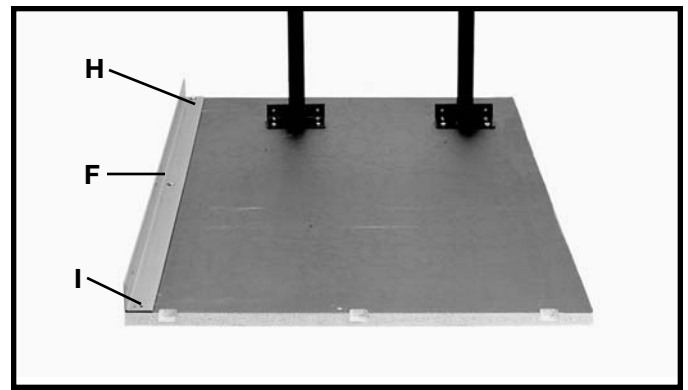
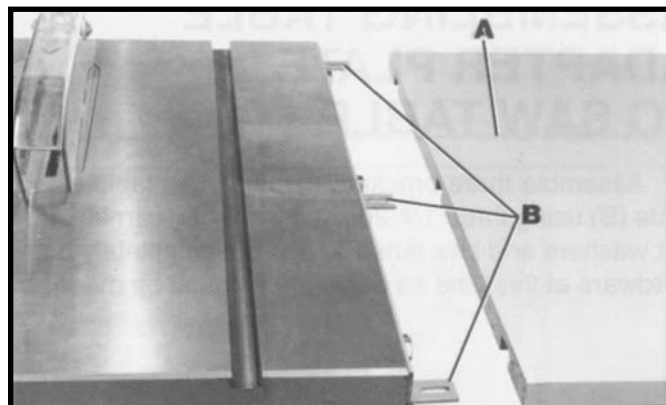
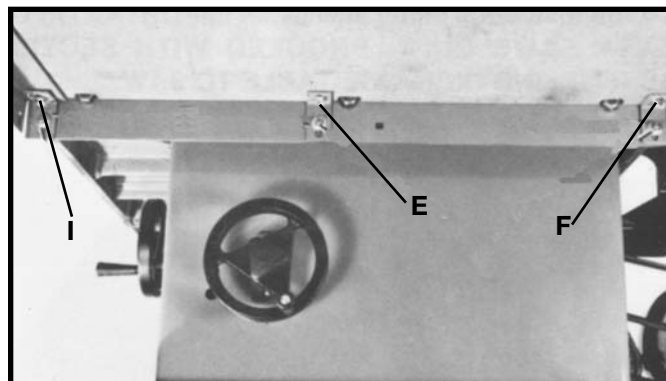
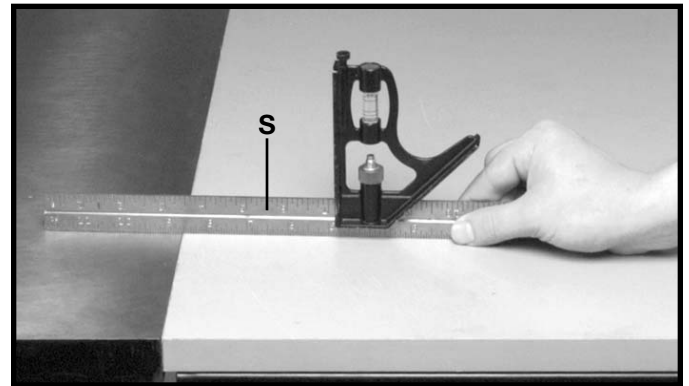

Fig. 9
Fig. 13
Fig. 14
Fig. 17
5. Fasten the front table support (F) Fig. 9, to the bottom of the table as shown using two #8x7/8" long wood screws (H) and (I) supplied.
**NOTE:** The vertical flange, on the table board support (F), should be flush with the front edge of the table board.
**NOTE:** The slots closer to the angles in the support (F) should be against the table.
**NOTE:** Screws (H) and (I) Fig. 9 should not be completely tightened to the table board at this time. Screw (I) will have to be removed later.
10. Assemble the table (A) to the three brackets (B) Fig. 13, using three #8x7/8" screws (I), (E), and (F), Fig. 14. **NOTE:** Screw (I) Fig. 9, must be removed in order to attach the left side table bracket to the table. **NOTE:** The two screws (E) and (F), Fig. 14, can be tightened and screw (I) Fig. 14, should be left slightly loose at this time.
13. Using a straight edge (S) Fig. 17, make certain the Unifence table surface is level with the saw table by adjusting two leveling screws located on the bottom of table legs and adjusting angle brackets (B) Fig. 13, use a level, side to side and front to back to make sure the table is level. **IMPORTANT:** Front edge of Unifence table must be flush with or slightly behind front edge of saw table.